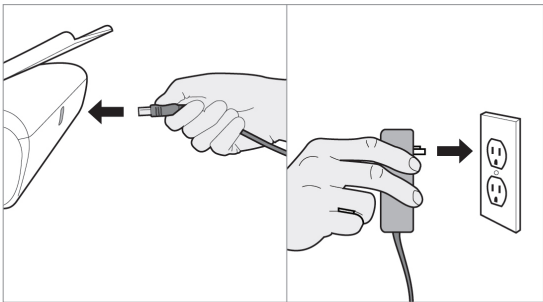

Figure 11 Connect Power Supply
4. Connect the Base Station to a power outlet for charging (see Figure 11).